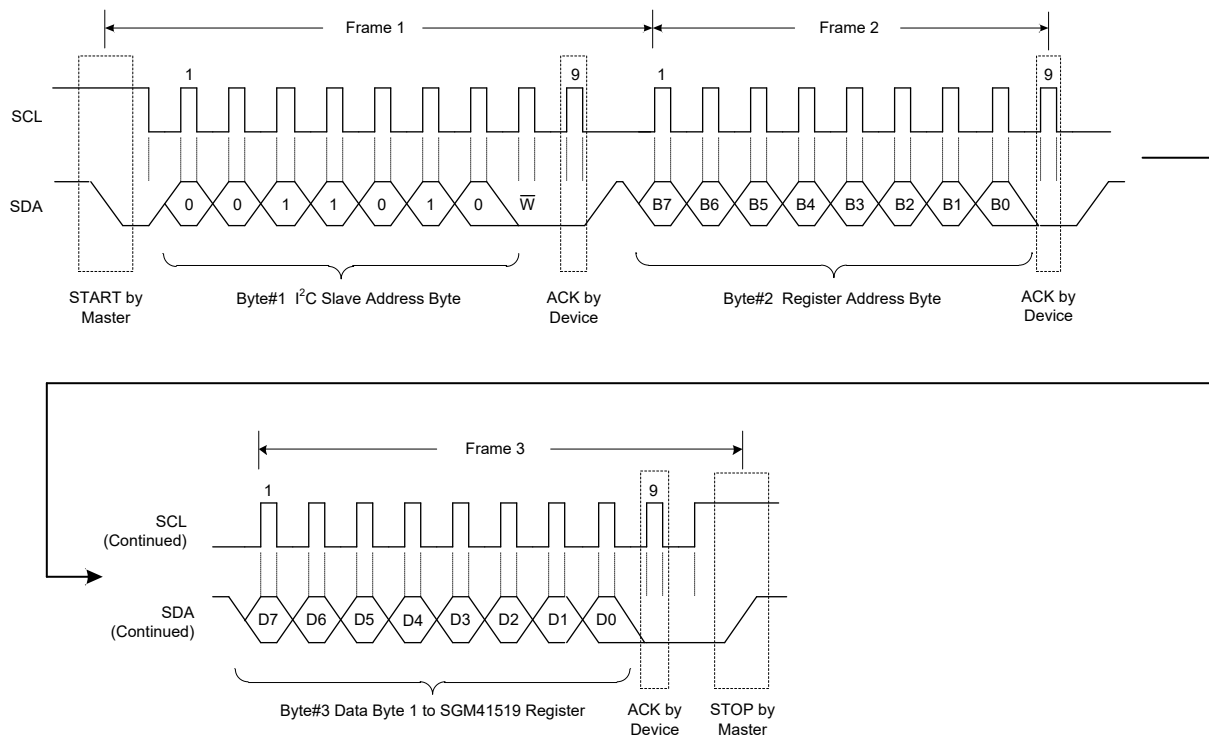

Figure 16. A Single Write Transaction
**WRITE:** If the master wants to write in the register, the third byte can be written directly as shown in Figure 16 for a single write data transfer. After receiving the ACK, master may issue a STOP condition to end the transaction or send the next register data, which will be written to the next address in a slave as multi-write. A STOP is needed after sending the last data.